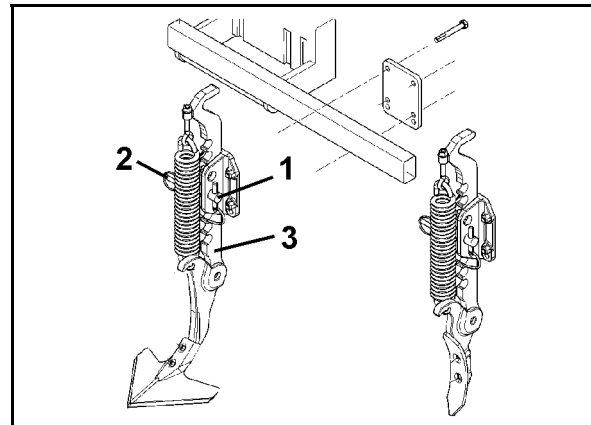

Fig. 37
For the tine rev. speed please refer to the rev. speed table (Fig. 37).
3. Adjust the working depth by re-inserting the pin (Fig. 37/1) in the interlocking of the wheel mark eradicator (Fig. 37/3) and secure by using a lynch pin (Fig. 37/2).